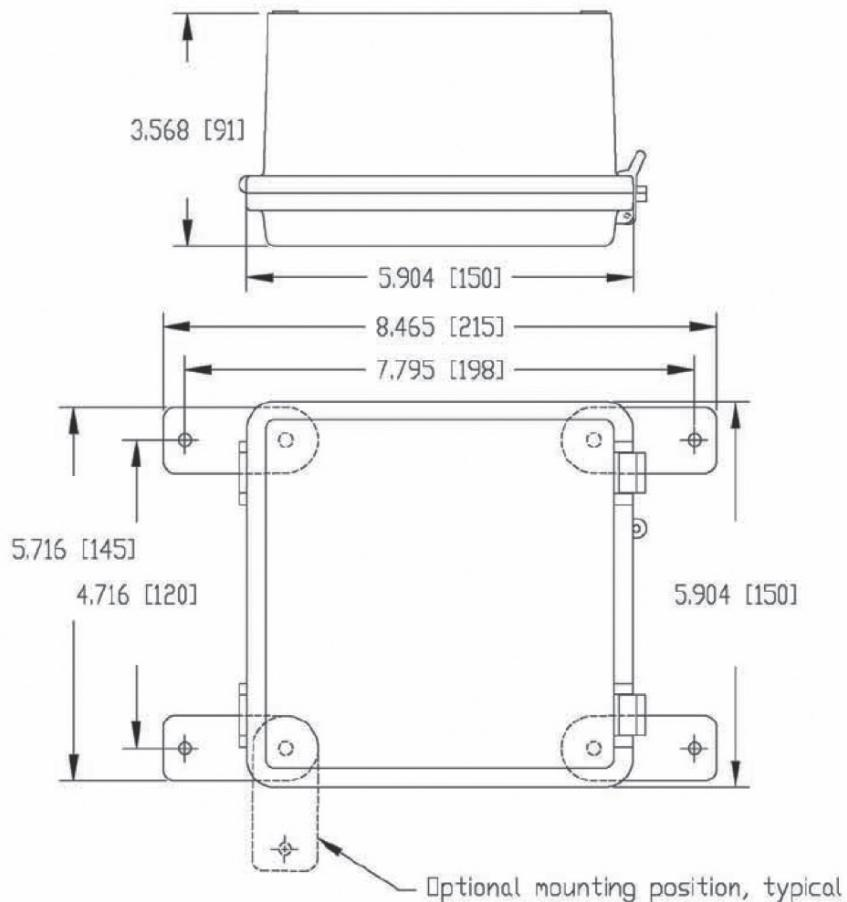

Figure 2 - Plastic Enclosure Dimensions
| Figure 2: Plastic Enclosure Dimenstions | 6 |
2. Plastic NEMA 4X enclosures, shown in Figure 2